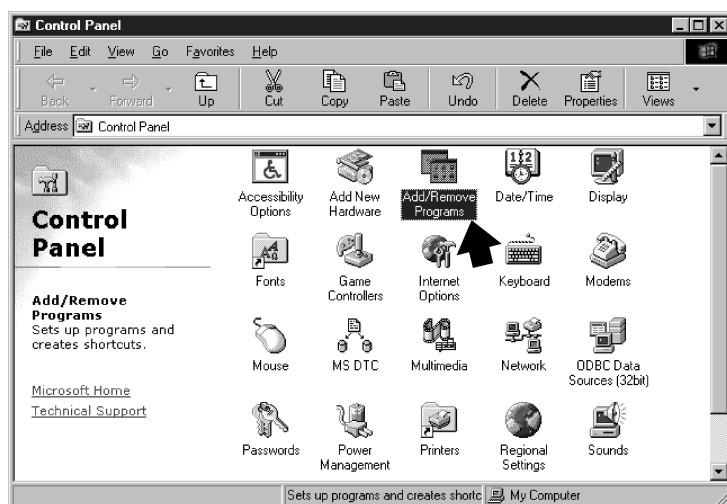

Fig. 73
2. In the Control Panel, double-click **Display**. (Fig. 73)